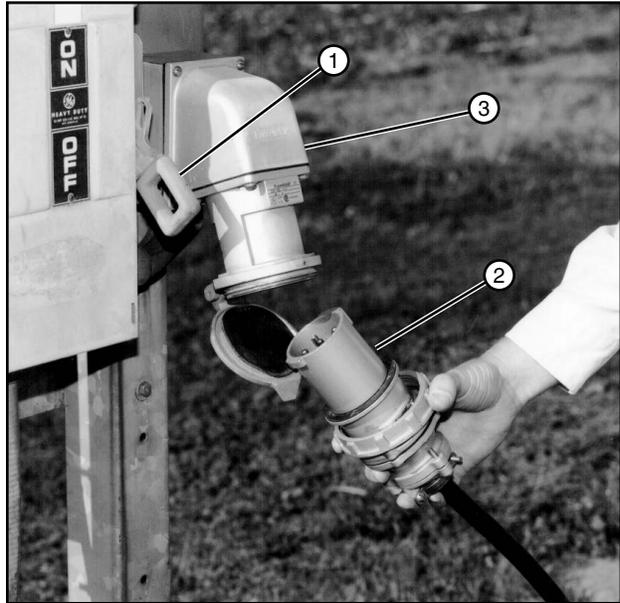

Figure 58-1 1. Service Disconnect - OFF
5. With the service disconnect in the OFF position, unplug the power plug from the receptacle. See Figure 58-1.